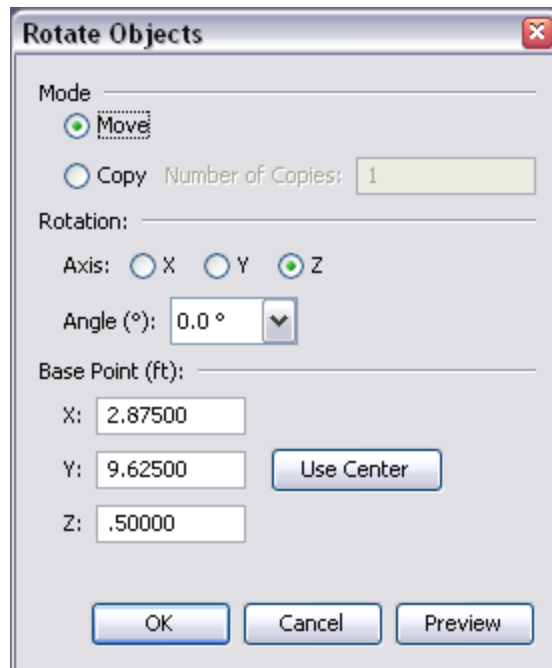

Figure 114. The rotate dialog being used to rotate an object
3. This will show the Rotate dialog as in Figure 114.